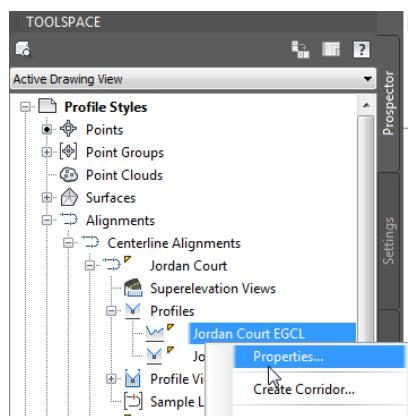

FIGURE 8.2 Using Prospector to access the Properties command for the Jordan Court EGCL profile
- 8.** In Prospector, expand Alignments > Centerline Alignments > Jordan Court > Profiles. Right-click Jordan Court EGCL and select Properties, as shown in Figure 8.2.